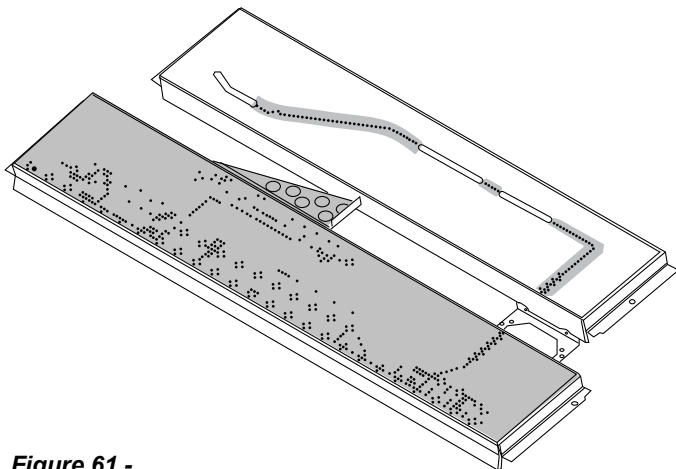

Figure 61 - Rockwool placement - 400/500 Series
2. Distribute one layer of rock wool to cover the burner. *Figure 61*